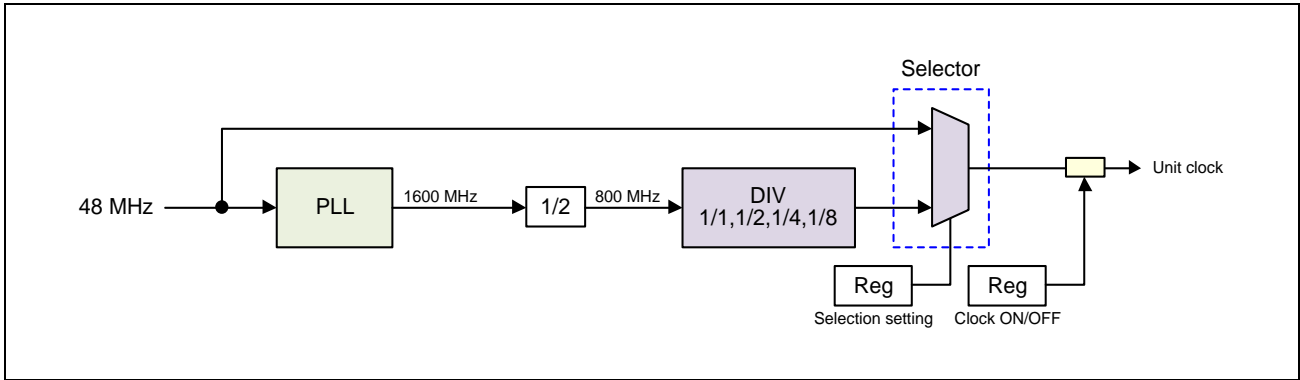
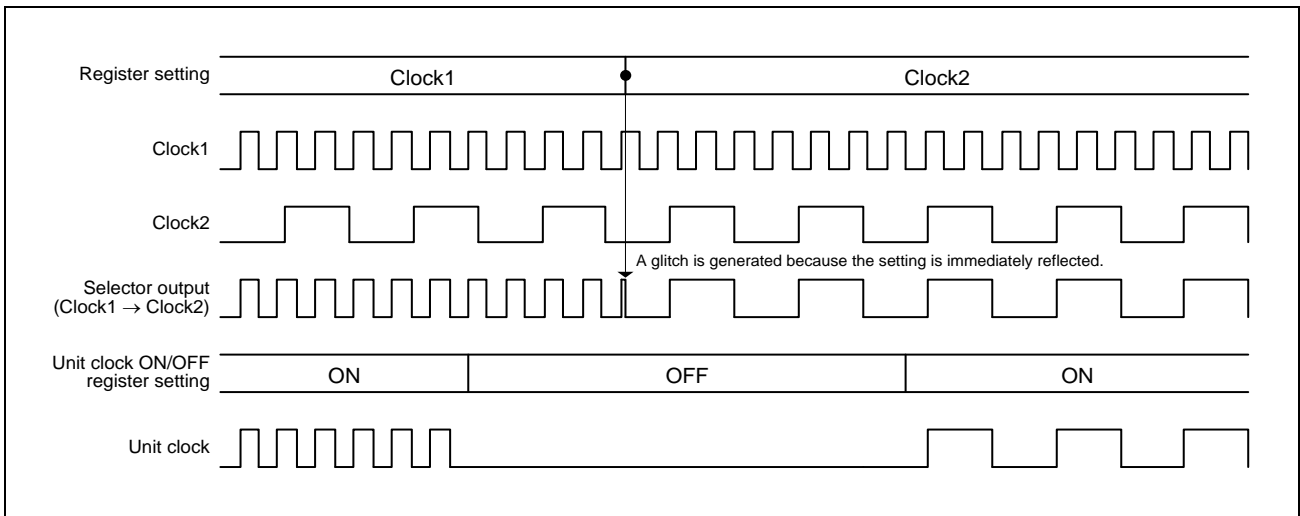

Figure 34.6-17 Schematic View of the Allocation of the Static Switching Selector
Figure 34.6-18 Timing Chart of Clock Switching of the Static Switching Selector
**Figure 34.6-17** is a schematic view of the allocation of the selector and **Figure 34.6-18** shows the timing chart.